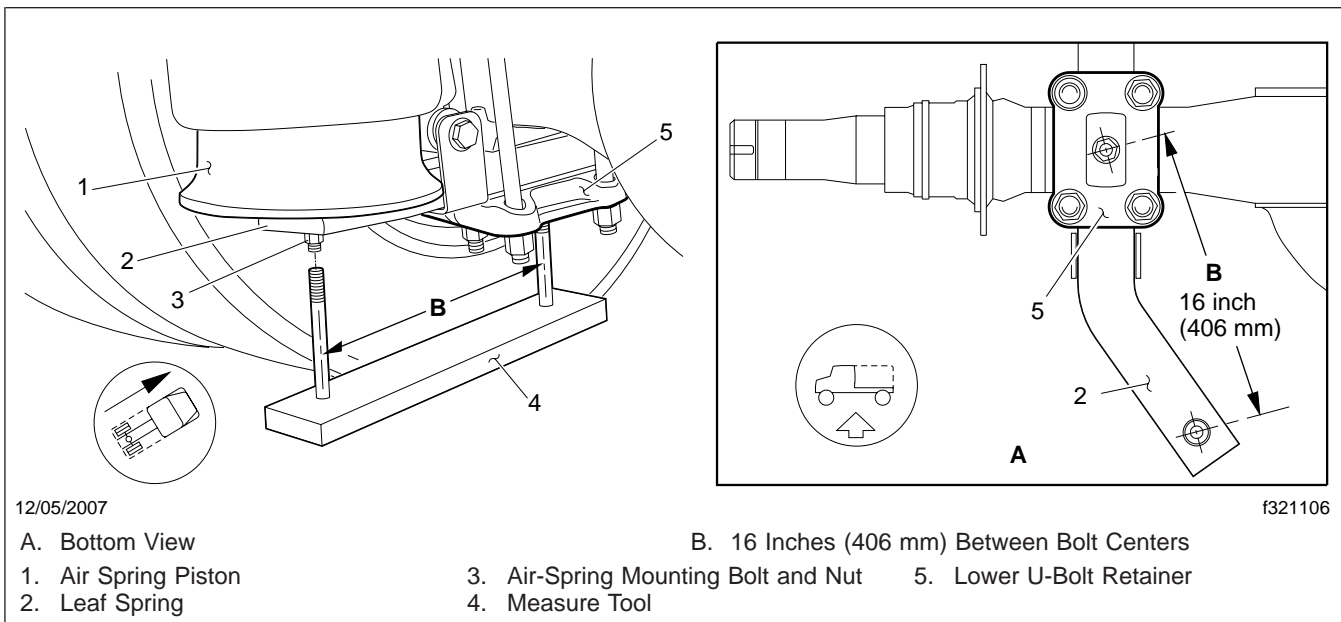

Fig. 10, Measuring the Air-Spring Mounting Hole Location
4. From under the vehicle, align the center of one of the bolts on the measurement tool with the center-bolt in the lower U-bolt retainer. See Fig. 10.
5. Pivot the measurement tool around to align the second bolt on the measurement tool with the air-spring mounting bolt and nut. Make sure the first bolt is still aligned with the center-bolt in the lower U-bolt retainer. See Fig. 10.